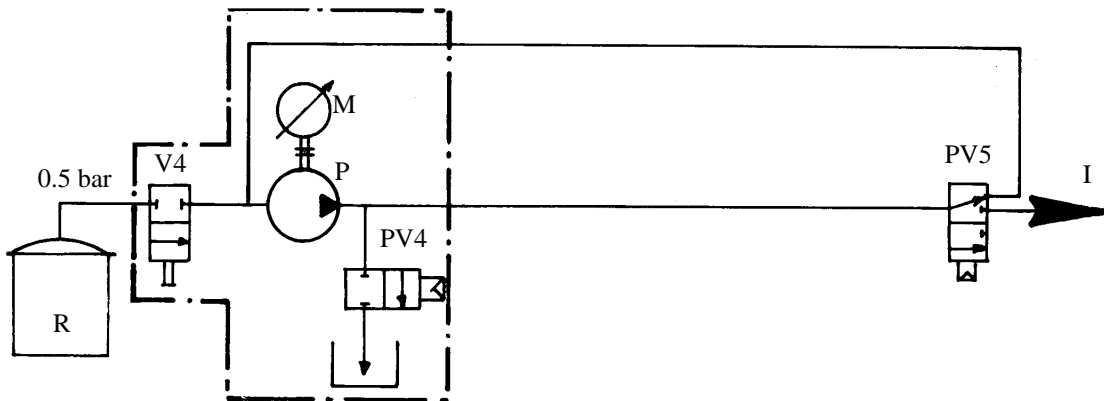

Figure 10
5.4. ASSEMBLY WITH RETURN CIRCUIT AND DRAINAGE AIR-VALVE (SEE FIGURE 10)